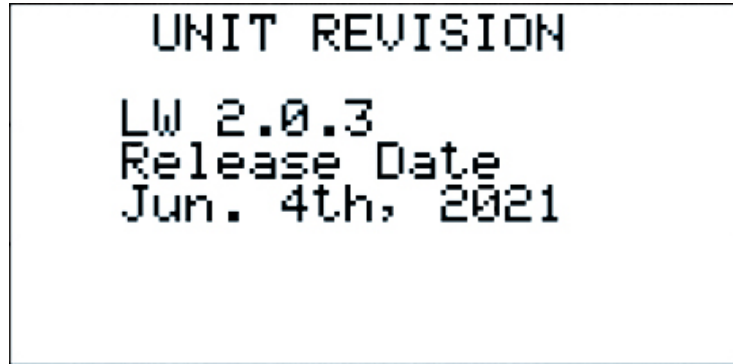

Figure 67
4.3.5 Unit Revision (Figure 67)
The UNIT REVISION screen shows the version of the application program that is running, along with the release date of the software (Figure 67). If a service call is necessary, Desert Aire Service Department may request this information.